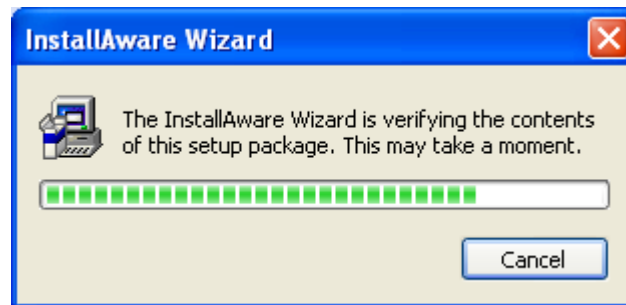

Figure 77 - InstallAware Wizard Verification Window
2. If the Matrikon OPC InstallAware screen does not automatically appear, double-click the installation .exe file. The **Matrikon OPC Server – InstallAware Wizard** verifies its contents (Figure 77).